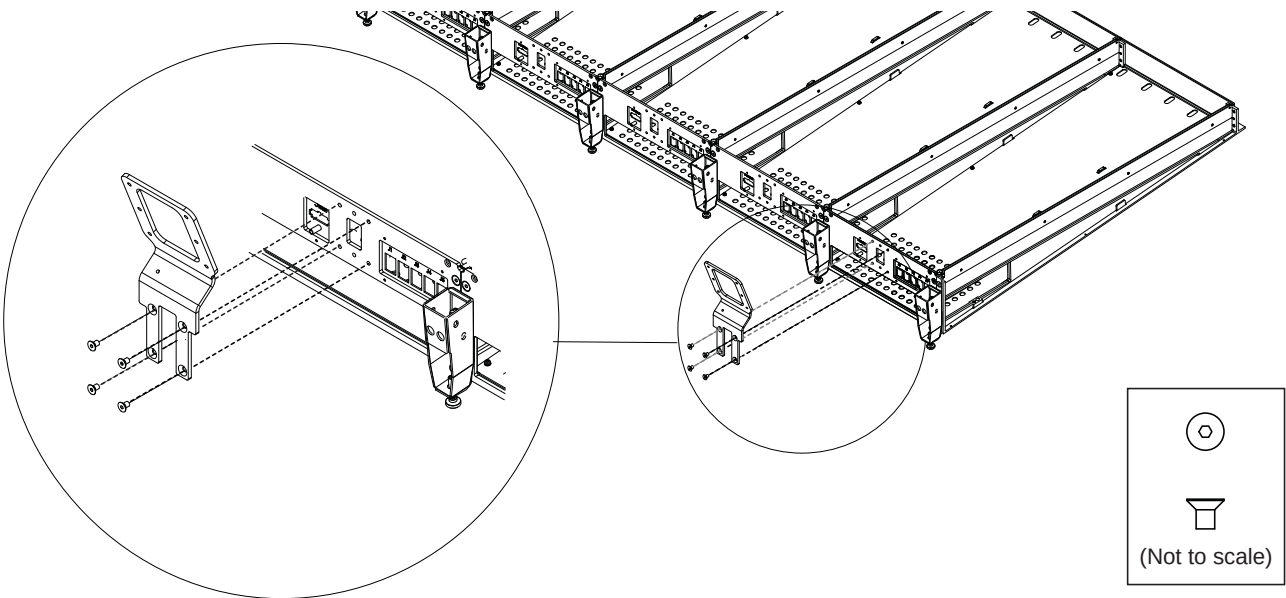

Figure 26. Attaching Display Module Mounting Brackets
- 2 Attach the first Display Module Mounting Bracket to the four holes located on the center of each channel chassis’ Back Tie Plate using four flathead Hex fasteners. Be sure to orient the brackets correctly, as shown in Figure 26. Do not attach a Display Module Mounting Bracket to the chassis that will contain your master section modules.